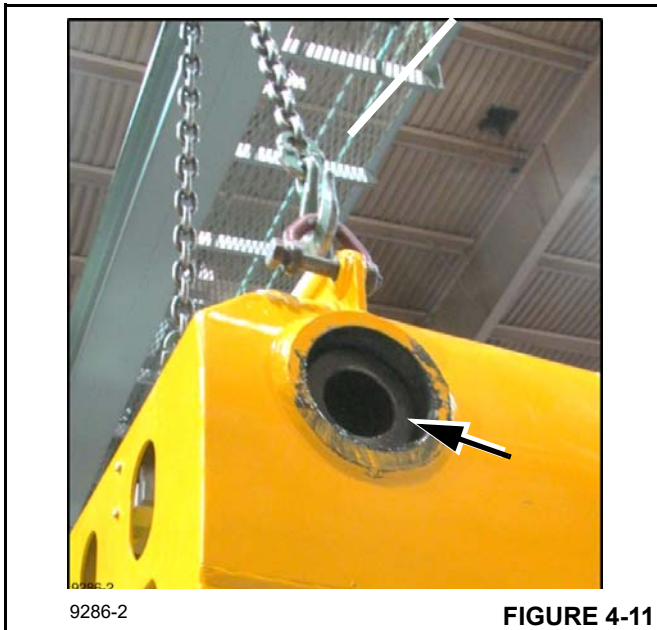

FIGURE 4-11
2. Ensure pins are pushed all the way in (Figure 4-11) and will not get caught up during lowering into the turntable.